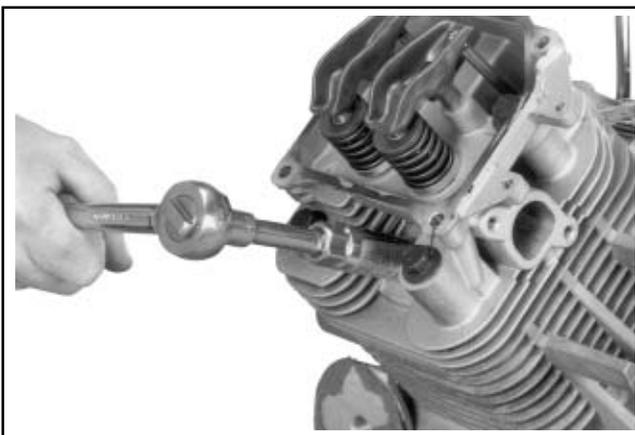

**Figure 11-47. Using Spanner Wrench to Lift Rocker Arm Over Push Rod.**
4. Use a spanner wrench or rocker arm lifting tool (see Section 2), to lift the rocker arms and position the push rods underneath. See Figure 11-47.